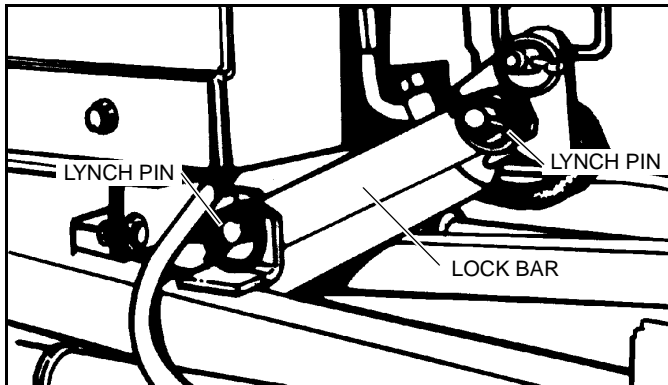

Figure 3-1
4. Insert the pin of the Lock Bar through the hole in the Lock Brackets on the left side of the A-Frame. (See Figure 3-1)
6. Remove the Lynch Pin from the Pivot Pin at the base end of the Lift Cylinder, place the slotted end of the transport lock of the bar over the pivot pin and re-install the lynch pin to hold the transport lock bar in place. (See Figure 3-1)